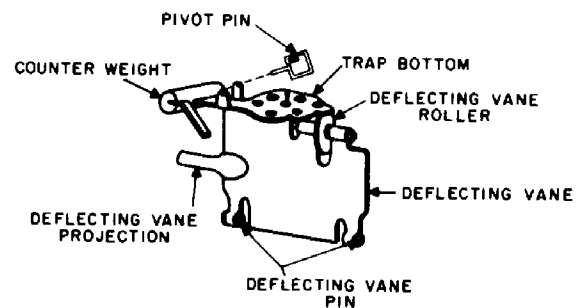

Figure 11. Coin Hopper.
2.21 To disassemble the coin trap (Figure 11), proceed as follows: